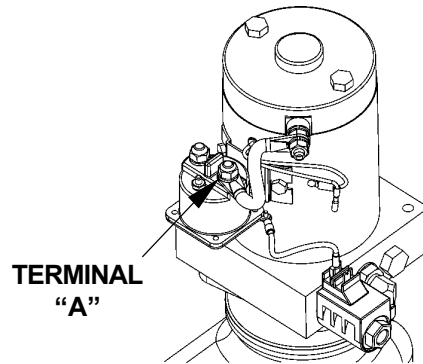

FIG. 40-1
1. Use voltmeter to verify that power is being supplied to Solenoid Terminal "A". Recharge the battery if voltmeter indicates less than 12.6 Volts (FIG. 40-1).